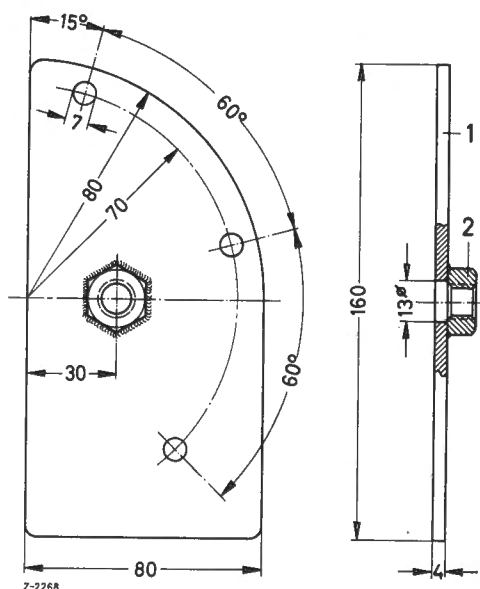

Fig. 07-30/2
4. In order to disassemble the vacuum pump or to relieve the two pressure springs screw the shop-made mounting plate with thrust screw (see Fig. 07-30/2) to the vacuum pump and turn the thrust screw until it rests against the roller (1) (Fig. 07-30/1).
5. Unscrew the cylindrical screw (3) while holding the diaphragm disk steady by means of pin wrench Part No. 000 589 00 05 and remove the diaphragm disk together with the diaphragm (4) (Fig. 07-30/1).
7. Before installing the vacuum pump check the dimensions "a" and "b" (Fig. 07-30/1).